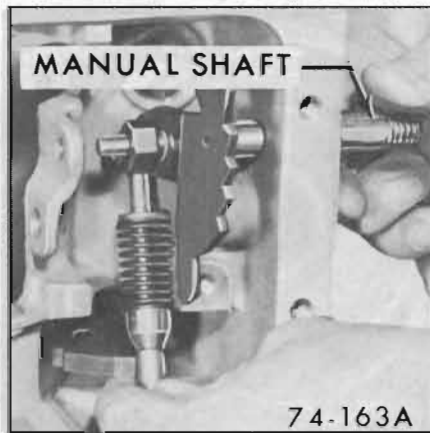

Figure 74-282
6. Install inner park lock and range selector assembly to manual shaft. Install nut on manual shaft. See Figure 74-282.